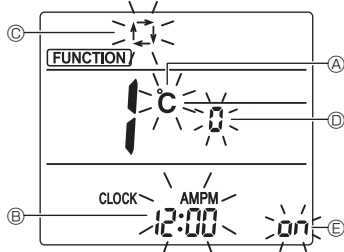

Fig. 4-11
3. Check that function No. "1" is displayed, and then press the **SET** button ③.
- The Screen display setting screen will be displayed. (Fig. 4-11)
- Press the **UP** button ④ to change the function No.
#### 4.12.2. Changing the temperature unit (Fig. 4-11 Ⓐ)
#### 4.12.3. Changing the time display (Fig. 4-11 Ⓑ)
#### 4.12.4. Changing the AUTO mode (Fig. 4-11 Ⓒ)
#### 4.12.5. Changing the pair No. (Fig. 4-11 Ⓓ)